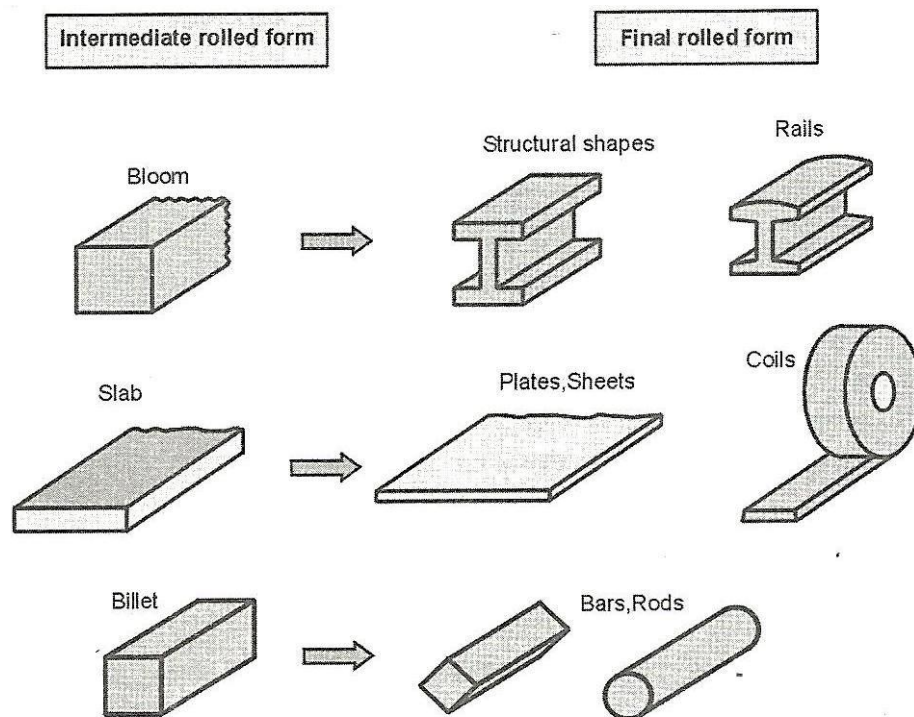

Fig. 3.5 : Steel components made from rolling
- Figure 3.5 shows some commonly used rolled steel sections.